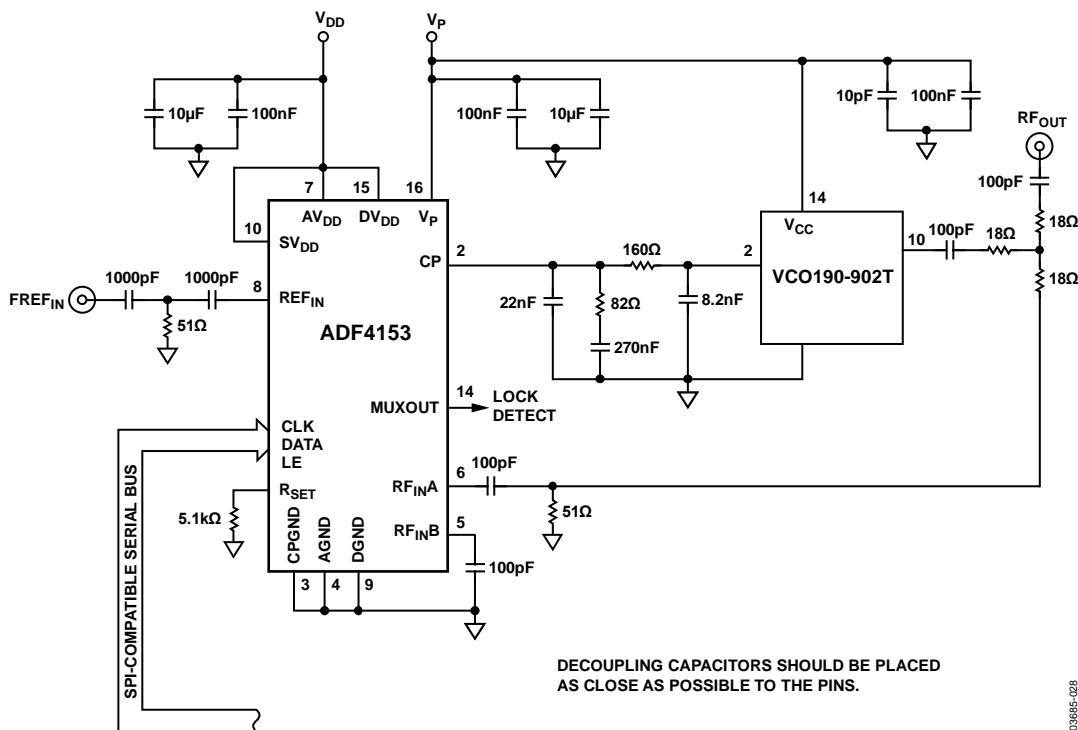

Figure 20. Local Oscillator for a GSM Base Station Transmitter
Figure 20 shows the ADF4153 being used with a VCO to produce the local oscillator (LO) for a GSM base station transmitter.